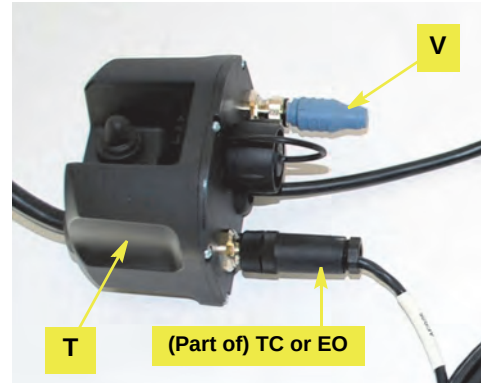

Figure 7d: CAN harness and terminator connected to junction box
- e. Connect the threaded 5-pin connector on the CAN bus harness **TC** (eDriveTC) or **EO** (eDriveX) to either of the threaded connectors on the junction box **T**. Connect the CAN bus terminator **V** to the other threaded connector on the junction box (Figure 7d).